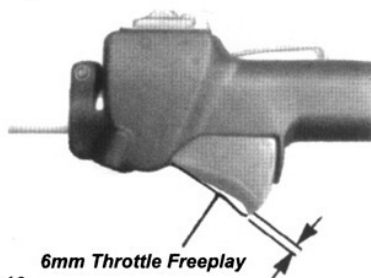

Figure 10
2. Adjust the throttle cable adjuster nuts until you achieve a free play on the throttle trigger of about 6mm. See Figure 10.